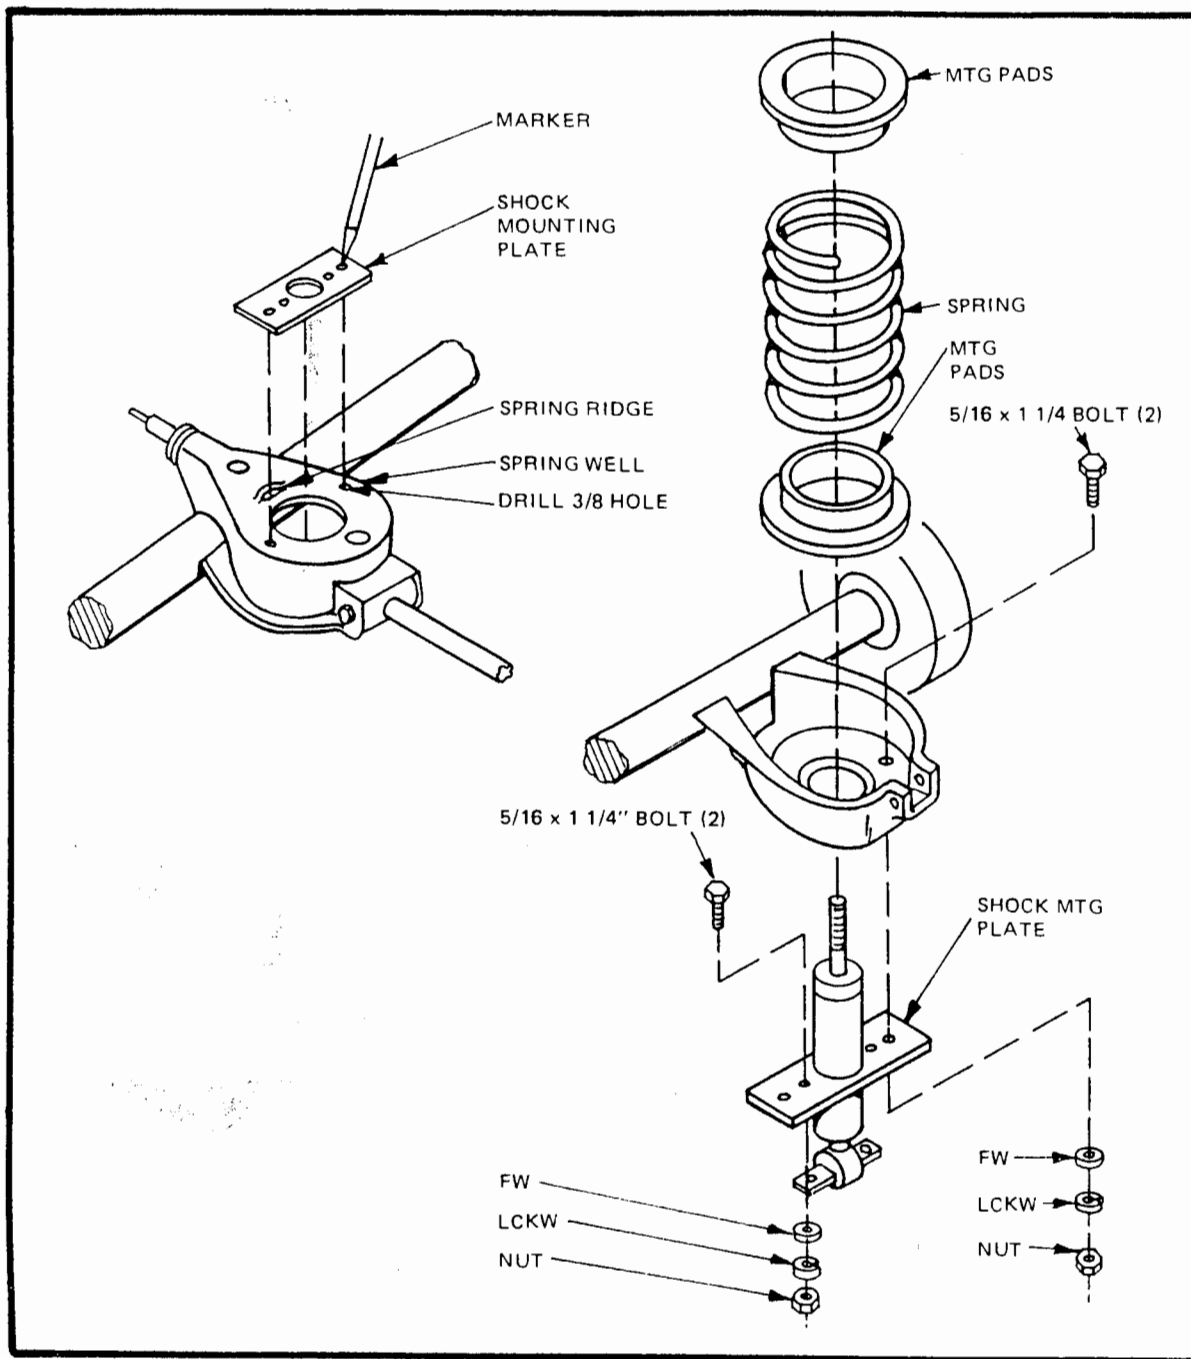

Figure 1
- Turn the entire assembly over, so the bottom of the spring wells are up. Using the shock mounting plates supplied as a template, lay it over the spring well, pushing it against the spring ridge as shown, and mark the hole locations. They should be evenly spaced on either side of the central hole. Drill 3/8" holes at marked locations. (Figure 1)